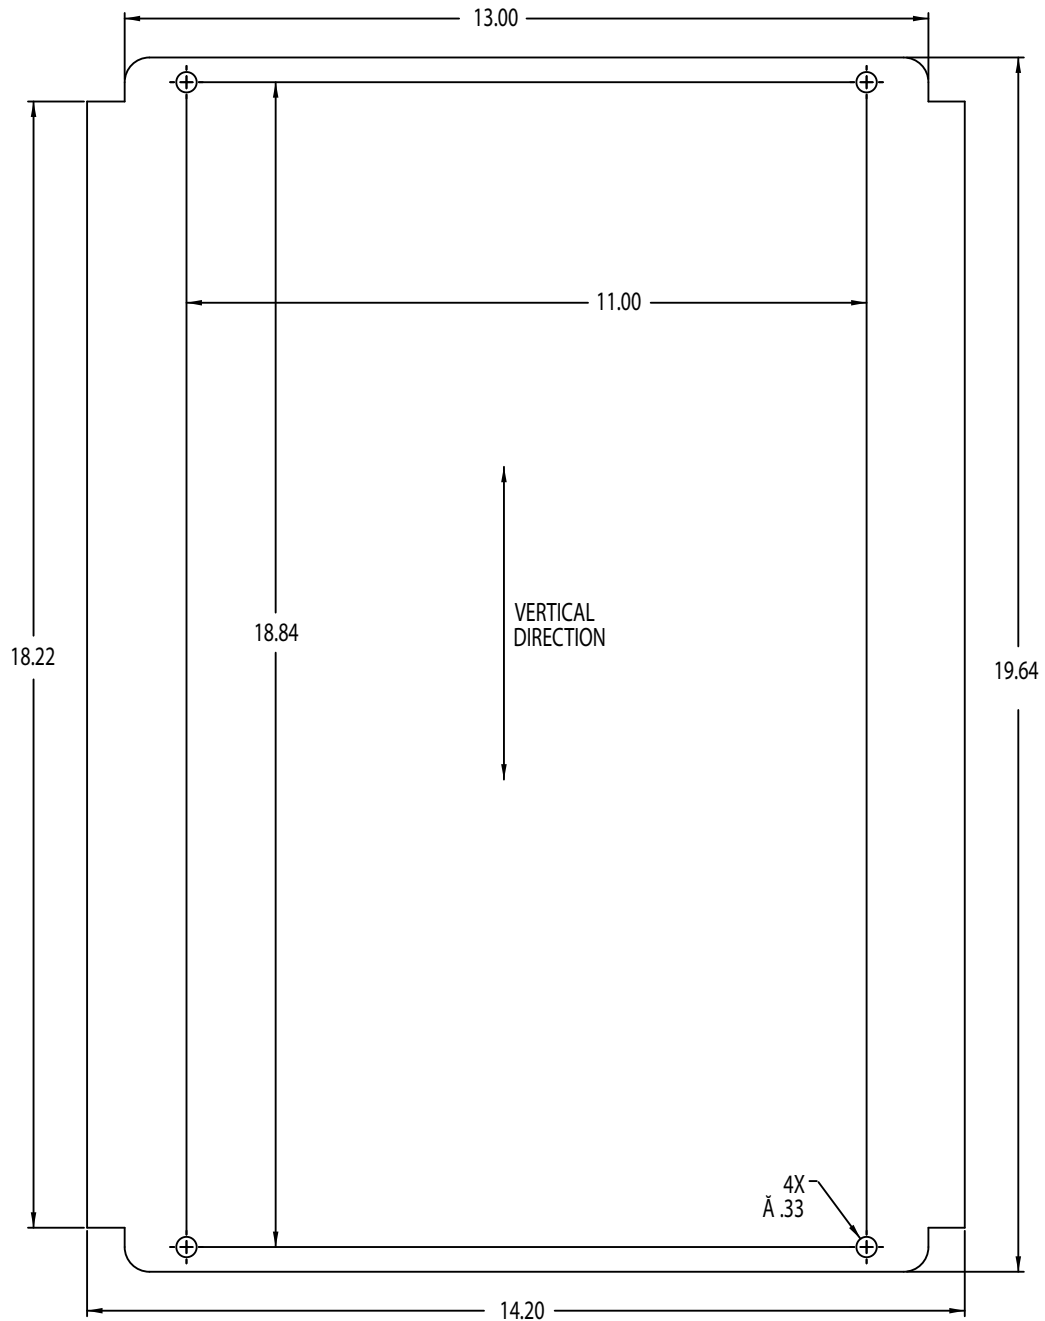

Figure 2-14. Wall Mount Dimensions
1. Using the wall mount as a template, mark the screw locations. See Figure 2-14 for dimensions.
This illustration is not to scale. It is for illustration purposes only. Use the dimensions in Figure 2-14 to mark the holes for the wall mount. Do Not use Figure 2-14 as a template.